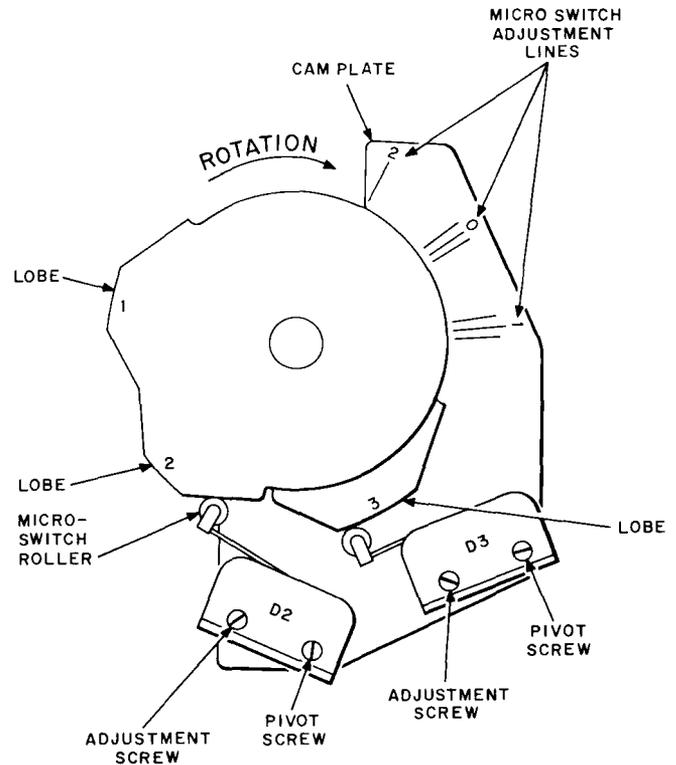

Fig. 18 — Relation of Cam Lobes to Micro Switches
3.24 Positioning Switch: Note the extreme positions of the switch as it pivots on its pivot screw (at right end of switch). Then securely tighten the pivot screw and the adjusting screw (at the left end of the switch) with the switch in the midposition. Remount the drum. Make sure in the case of the D2 switch that the operating lever clears the stud that supports the shield when the roller of the operating spring is not in contact with the cam. To check if the switch is correctly positioned, proceed as described in 3.25. See Fig. 18 for relation of cam lobes to Micro Switches.